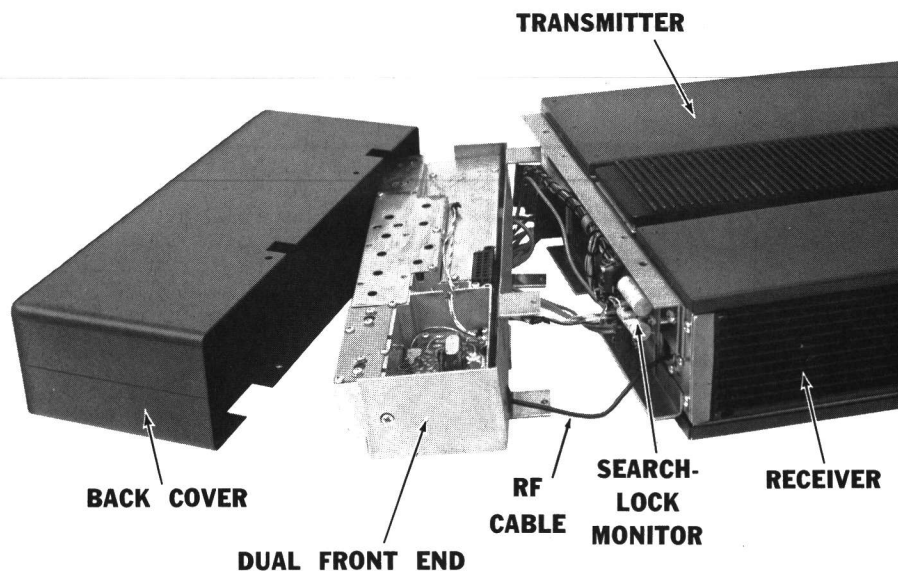

Figure 4 - Dual Front End Disassembly
2. Remove the four screws holding back cover to system frame. Slide cover back and lift off (see Figure 4).